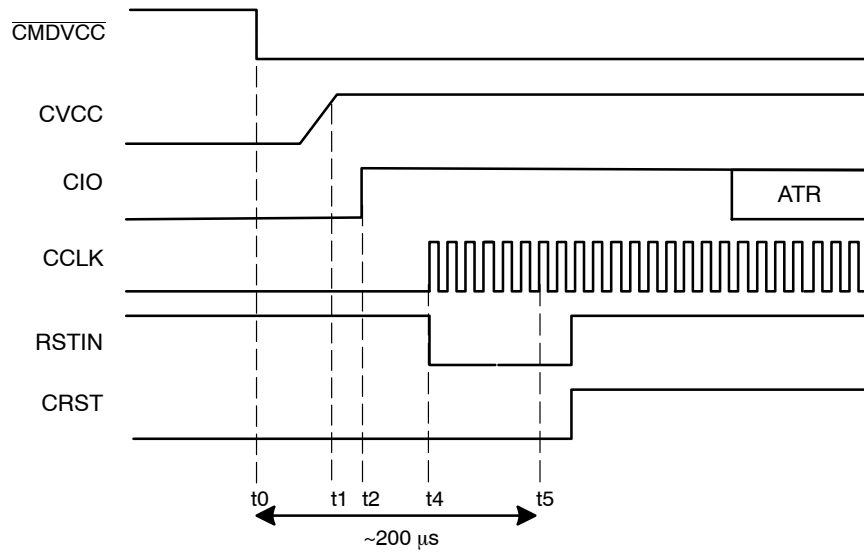

Figure 5. Activation Sequence – RSTIN Mode (RSTIN Starting High)
The clock can also be applied to the card using a **RSTIN mode** allowing controlling the clock starting by setting RSTIN Low (Figure 5). Before running the activation sequence, that is before setting Low $\overline{\text{CMDVCC}}$ RSTIN is set High. The following sequence is applied:
- Between t₂ (Figure 5) and t₅ = 200 μs, RSTIN is reset to LOW and CCLK will start precisely at this moment allowing a precise count of clock cycles before toggling CRST Low to High for ATR (Answer To Reset) request.